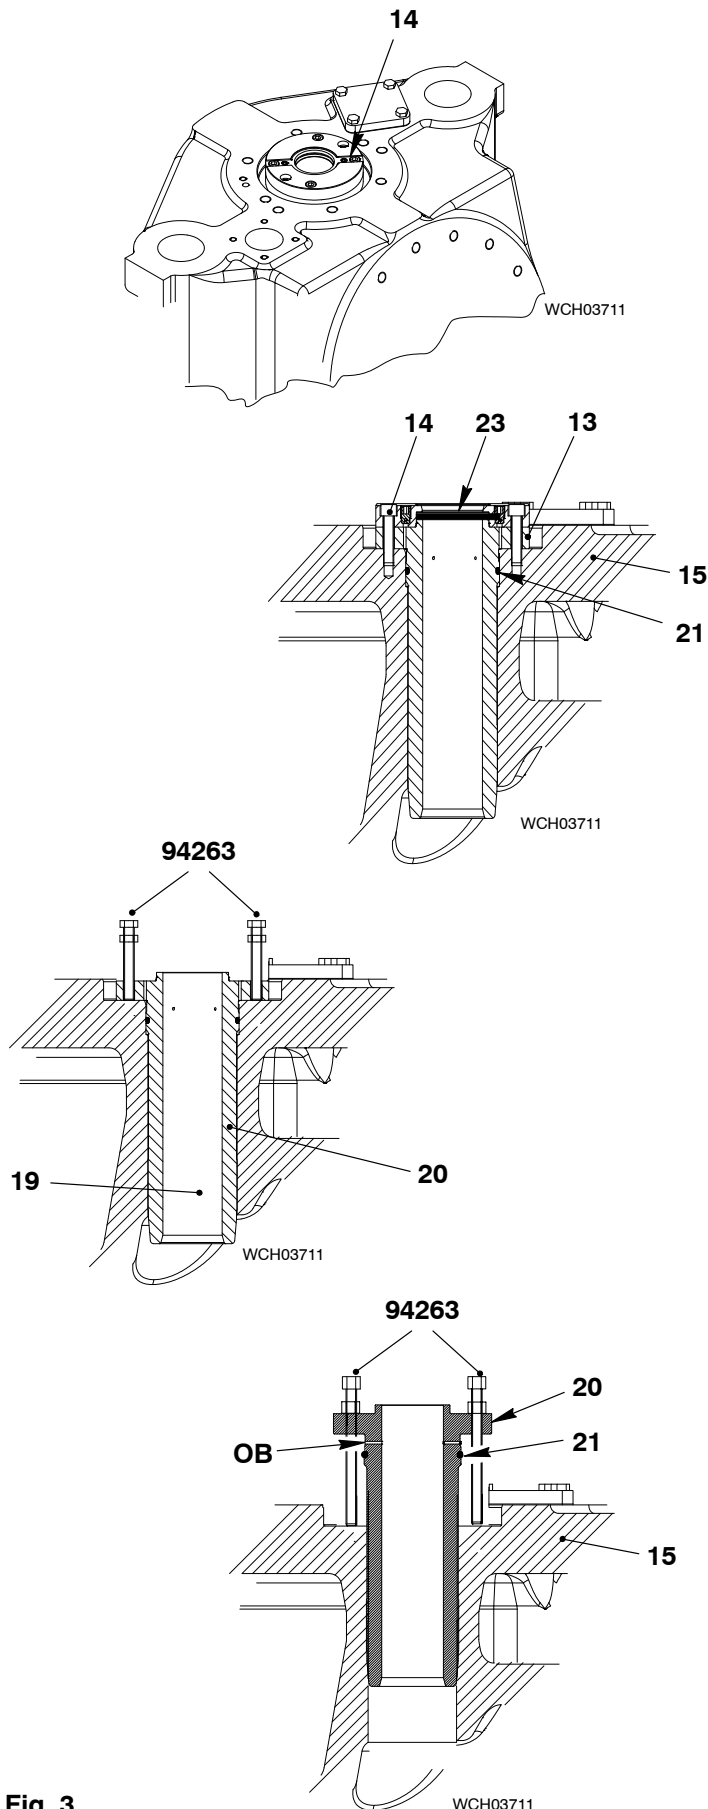

Fig. 3
- 1) Remove the four screws (14, Fig. 3).
- 2) Remove the spacer (13).
- 3) Remove and discard the rod seal (23).
- 4) Put the jack screws (94263) into the flange of the guide bush (20).
- 5) Turn the jack screws (94263) to lift the guide bush from the valve spindle (19).
- 6) Remove and discard the O-ring (21).
- 7) Measure the inner diameter of the guide bush (20).
- 3) Do a check of the piston seal ring (11) for damage. If you find damage, replace the piston seal ring.
- 5) Put oil on the valve spindle (19).
- 6) Use the two M20 eye bolts and two ropes or the lifting tool (94209) to lift the valve cage to the top of the valve spindle (19). Make sure that the valve spindle does not move.
- 8) Put oil on the new rod seal (23).
- 9) Put the new rod seal (23) in position on the valve spindle (19, Fig. 3).